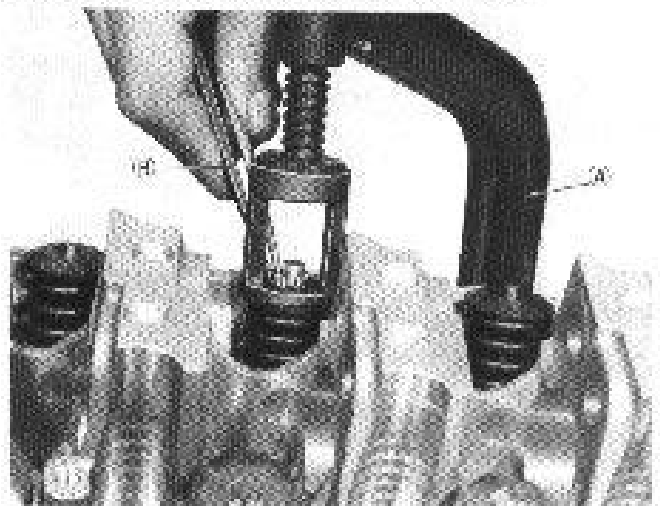

Fig. 3-122 (1) Forceps (09916-84510)
To fit valve cotter pins to the groove provided on the end portion of each valve stem, be sure to use the valve lifter ① (09916-14510): compress the valve spring with this lifter and mount the cotter pieces, as shown in Fig. 3-122.